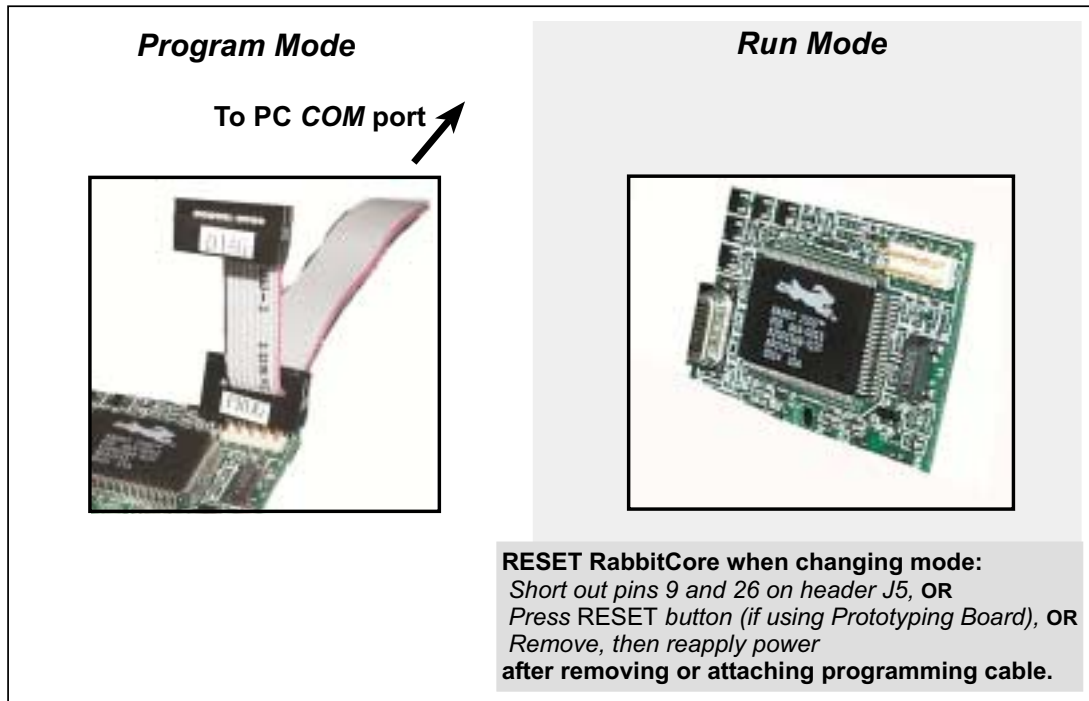

Figure 3. Switching Between Program Mode and Run Mode
2. Reset the RCM2300. You may do this as explained in Figure 3.
2. Reset the RCM2300 series. You may do this as explained in Figure 3.